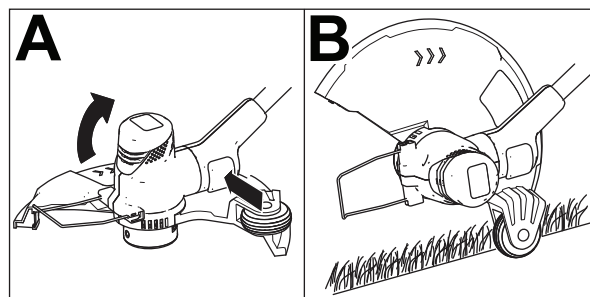

Figure 16
1. Press the rotator button, rotate the head 90°, and make sure that it locks into place (A of Figure 16).
2. Stand the trimmer on the wheel and begin edging (B of Figure 16).